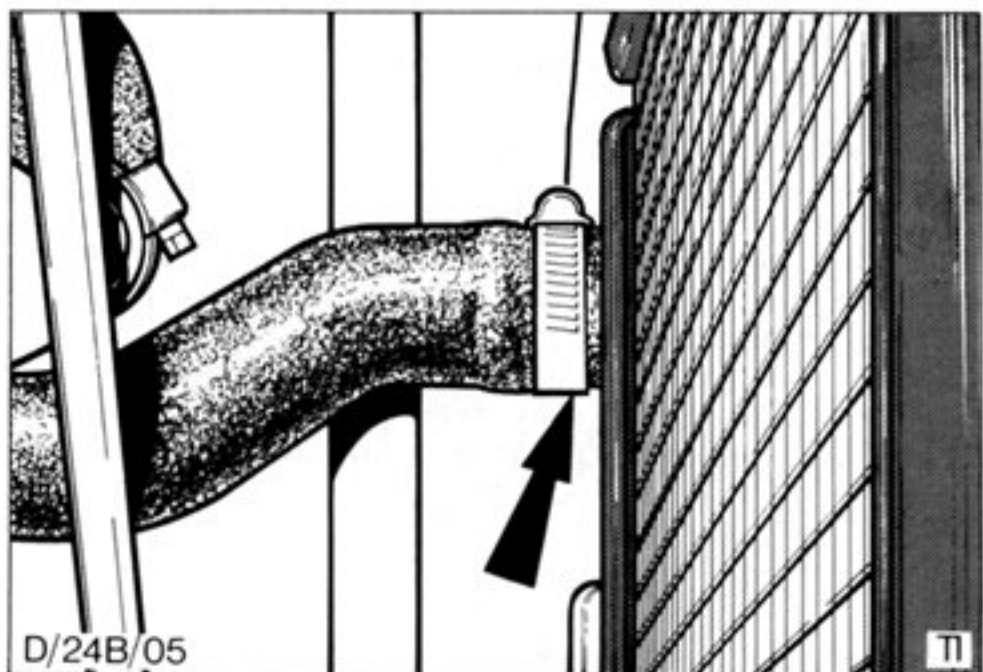

Fig.7. Radiator bottom hose clamp (fan shroud removed for clarity).
4. Loosen radiator bottom hose clamp, Fig.7, remove hose from radiator and drain system. To assist draining remove radiator and degas tank caps.